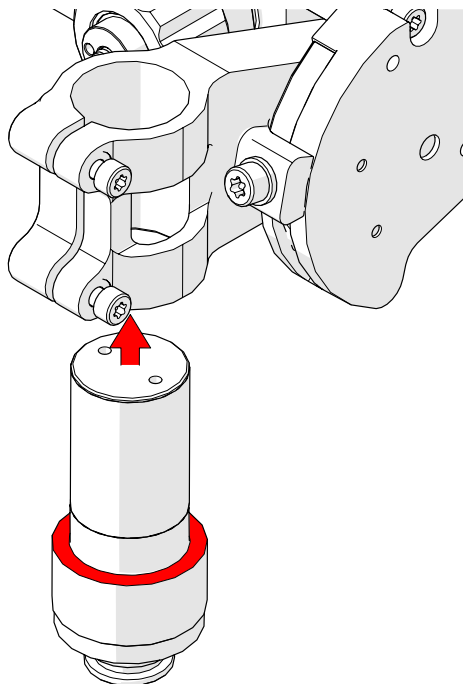

Fig. 185 - Install idler shaft
3. Install the replacement idler shaft and until the idler shaft presses against the base of the clamp. (*Fig. 185*).